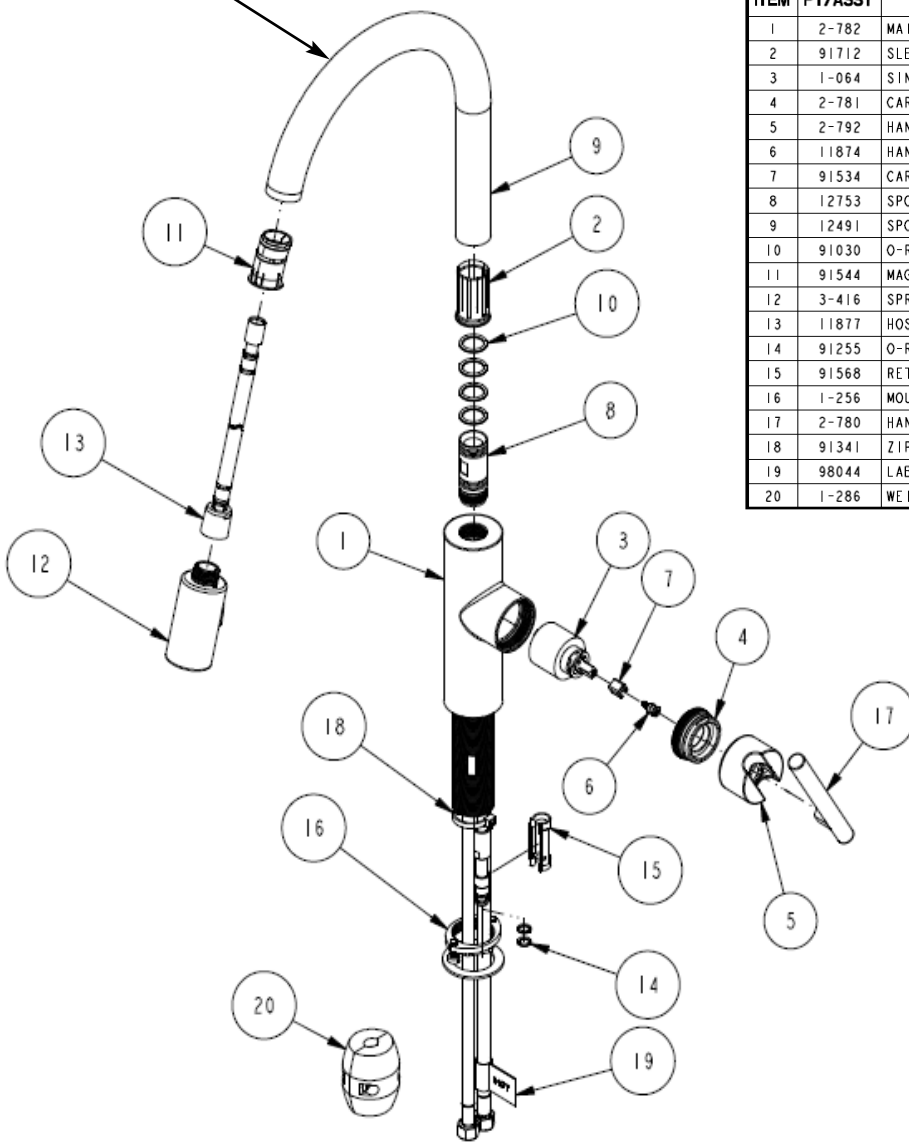

Figure 4 - Spare Parts
6. Attach WEIGHT (9) to HOSE (6) in the appropriate area shown, on the upward swing toward the SPRAYHEAD (5), in order to provide proper pull to hose. See **Figure 4**.
7. Connect HOSE (6) to valve outlet (8). See **Figure 4**. Attach CLIP (7) to the connection between HOSE (6) and OUTLET (8). See **Figure 4a**.
9. Pull SPRAYHEAD (5) out from SPOUT (4). While holding HOSE (6), unscrew SPRAYHEAD (5). Aiming HOSE (6) into sink, turn on faucet to center position (mixed) and flush for one minute to remove debris from lines.